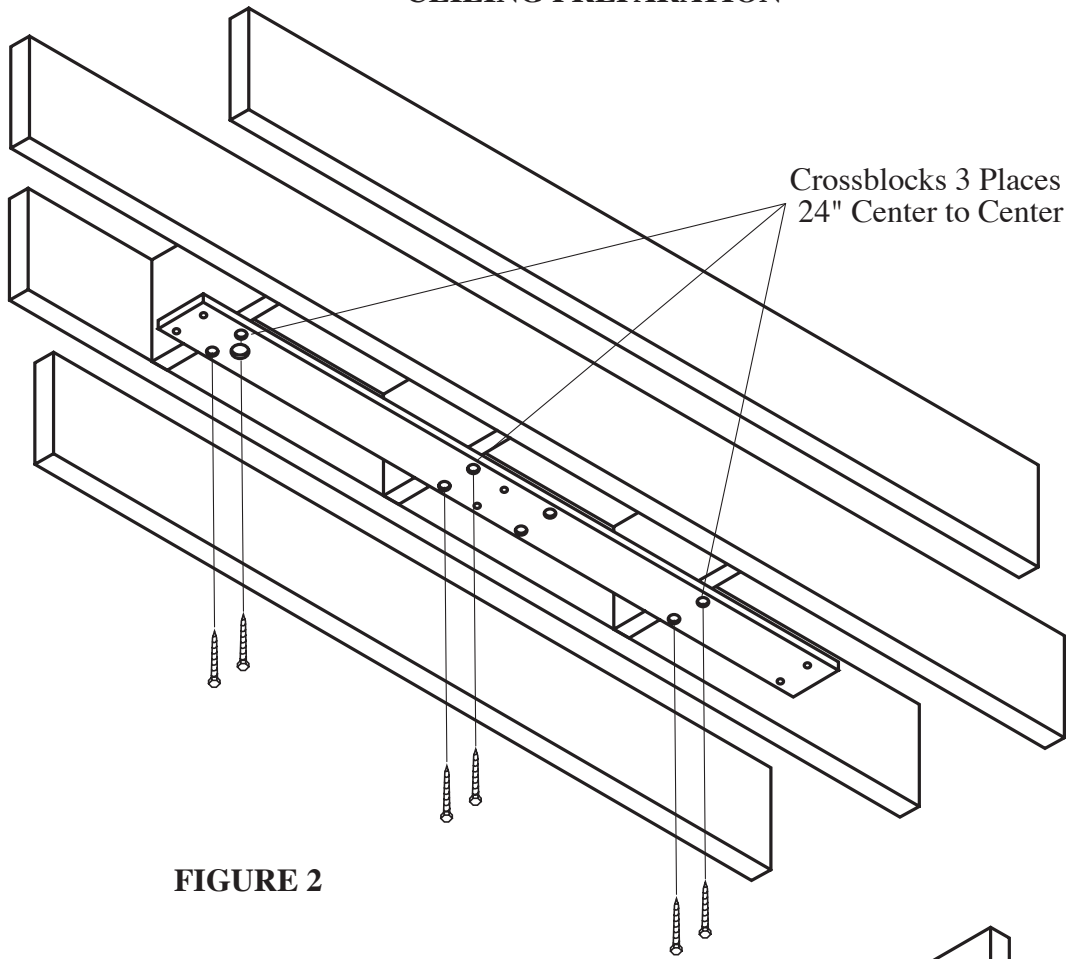

FIGURE 2
- B) For conventional ceilings with **joists parallel** to the center line of the light, cross blocks must be installed in 3 places to allow mounting with **at least 6 - 5/16 x 3" lag screws**. (SEE FIGURE 2.)